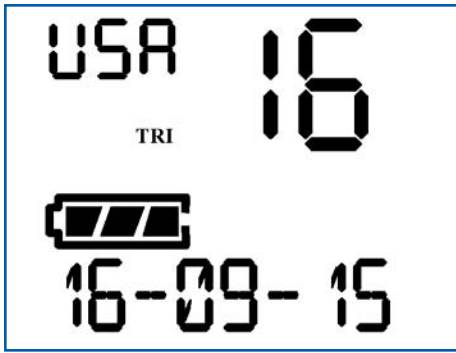

Fig. 14b: Triple Watch Display
- If there is traffic on Channel 16, the radio will monitor Channel 16 until the signal stops. (Fig. 14b)